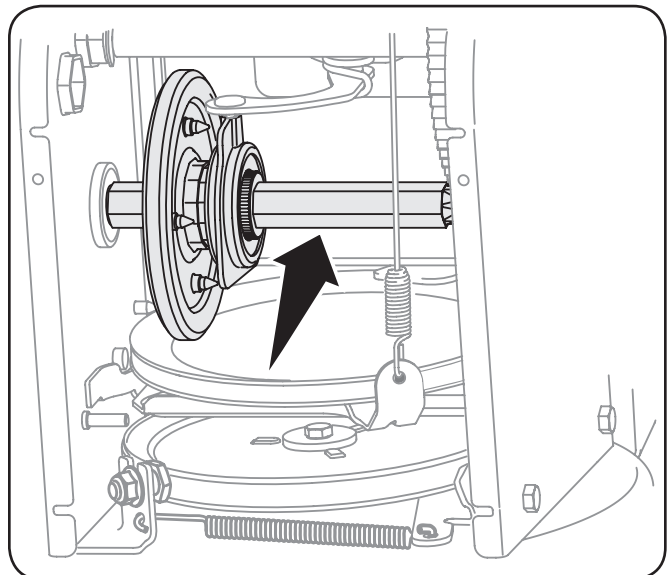

Figure 6-6
4. Apply a light coating of Regular Grade Anti-Seize to the hex shaft. See Figure 6-6.